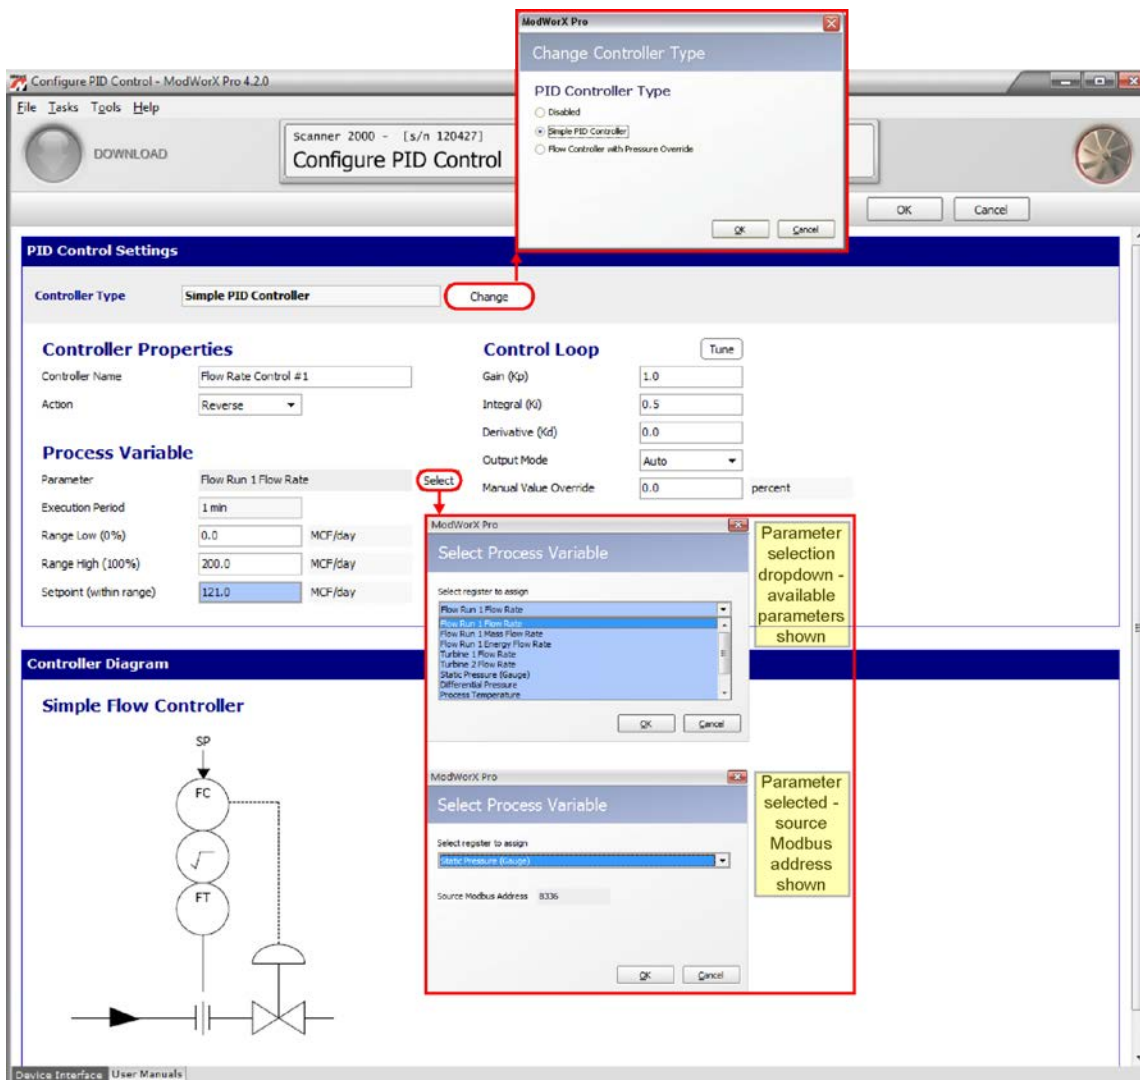

Figure B.5
1. From the Scanner 2000 or Scanner 210x Configuration Menu, click the **PID Control** button to access the Configure PID Control screen (Figure B.5).
5. Enter the Range Low and Range High values for the process variable being controlled in the fields provided. In Figure B.5, page B-4, the range is 0 to 200 Lit/hour.
1. From the Scanner 2000 or Scanner 210x Configuration Menu, click the **PID Control** button to access the Configure PID Control screen (Figure B.5, page B-4).